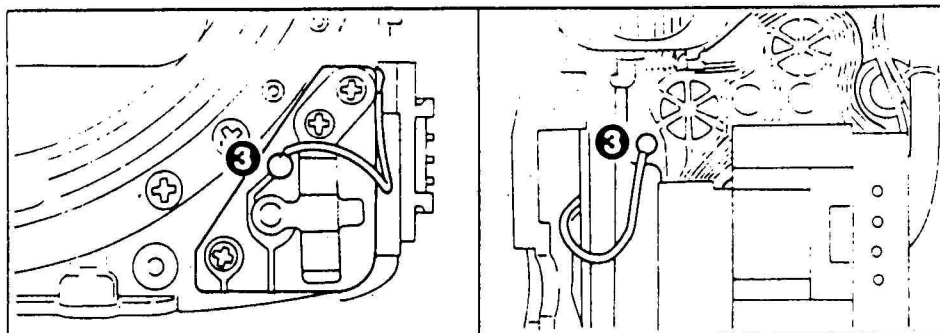

Fig.1
- ① Is the battery polarity correct?
- ② Is the battery voltage 6V?
- ③ Check soldering of orange cord for battery check button. (See Fig. 1.)